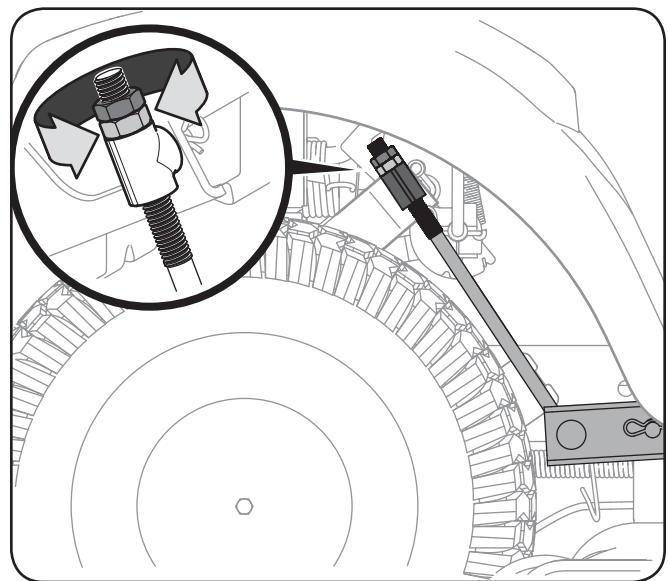

Figure 6-6
3. Under the rear fenders inside the wheels there is a lift adjustment rod for each side of the deck. See Figure 6-6.